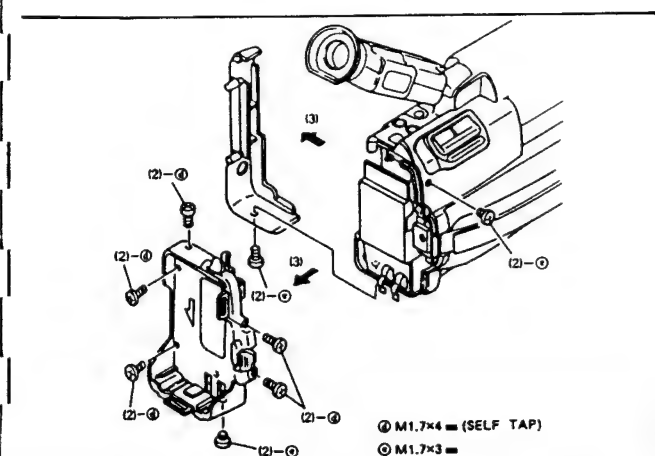

Fig. II-3
2-1-2 Removal of rear cover (1) and rear cover (2) (Fig. II-3)
- (1) Turn up the electronic viewfinder.
- (2) Loosen five screws (d) and three screws (e).
- (3) Remove the rear cover (1) and rear cover (2).